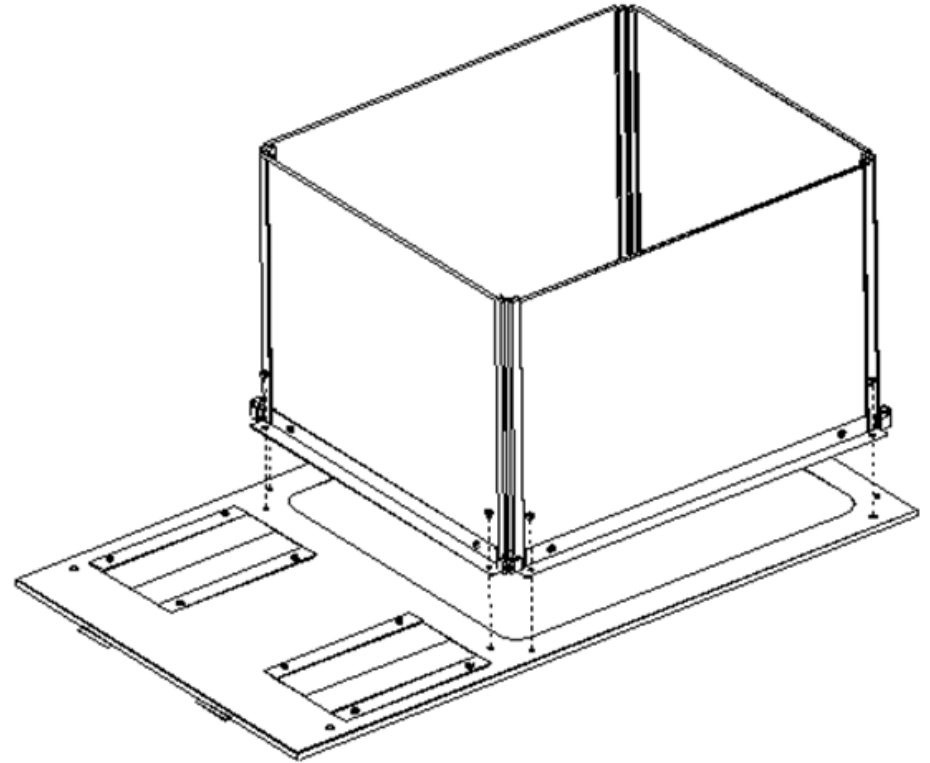

Fig. 4
4. Use 8 pcs M5 screw to install the bottom part of VED to the top panel (Fig. 4).